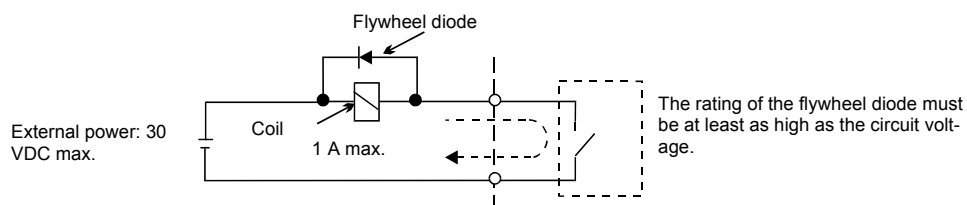

Fig 3 Flywheel Diode Connection
*2. When driving a reactive load, such as a relay coil with DC power supply, always insert a flywheel diode as shown in Fig 3.